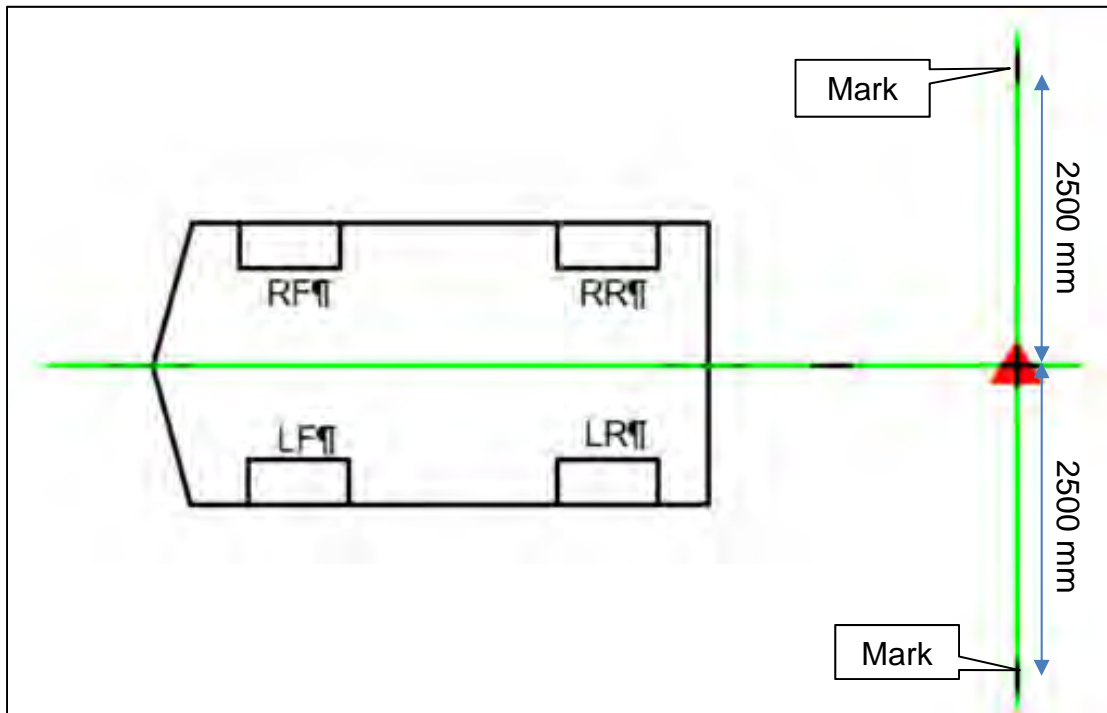

Figure 77
52. Measure and place a mark 2500 mm to the left and to the right of the laser level, as shown in Figure 77, Figure 78 and Figure 79.